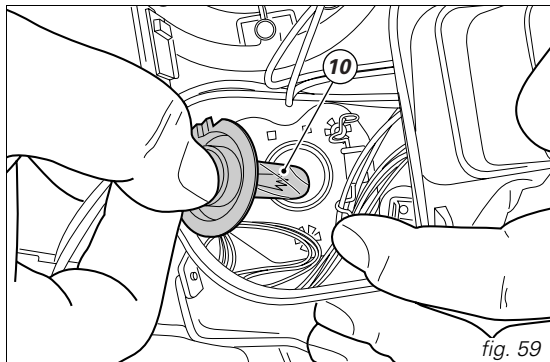

fig. 59
Remove the burnt-out bulb (10) and replace it with a new one, do not touch the transparent quartz (fig. 59).